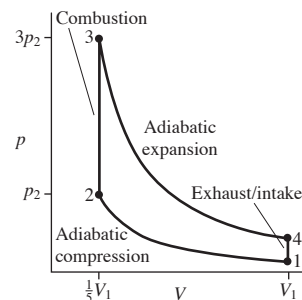

FIGURE 19.24 Problem 53
53. Gasoline engines operate approximately on the Otto cycle, consisting of two adiabatic and two constant-volume segments. Figure 19.24 shows the Otto cycle for a particular engine. (a) If
54. The compression ratio r of an engine is the ratio of maximum to minimum gas volume. For the engine of the preceding problem, Fig. 19.24 shows that the compression ratio is 5. Find an expression for the engine's efficiency as a function of compression ratio, assuming that pressure continues to triple during the combustion phase.